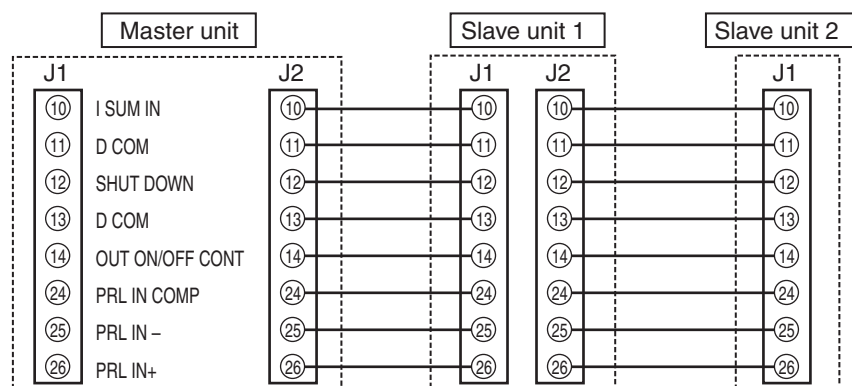
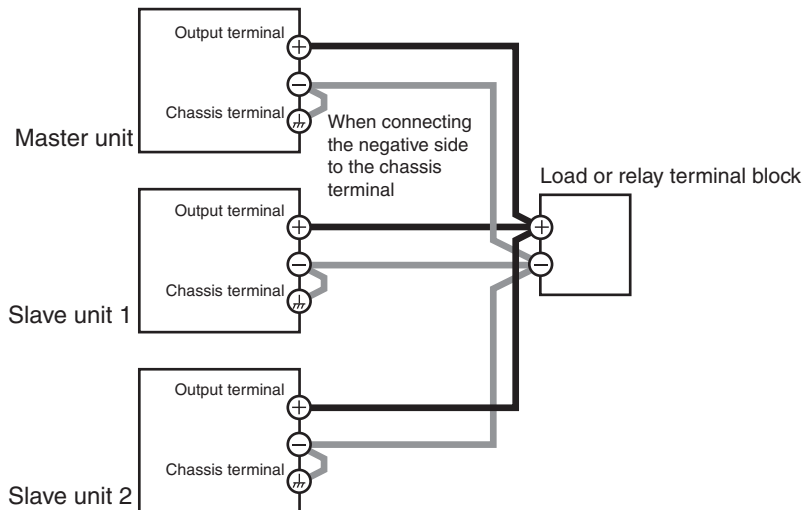

Fig.6-4 Connection for parallel operation (two slave units)
Fig.6-5 Load connection for parallel operation (two slave units)
Fig.6-4 and Fig.6-5 shows an example when connecting two slave units.
If you are using the J1/J2 connector kit that comes with the package, refer to Fig.6-4 to make the connection. For tools needed for the connection, see Table 5-1.
- 4 As shown in Fig.6-5, connect the load wires of the master and slave units to the load or the relay terminal block.